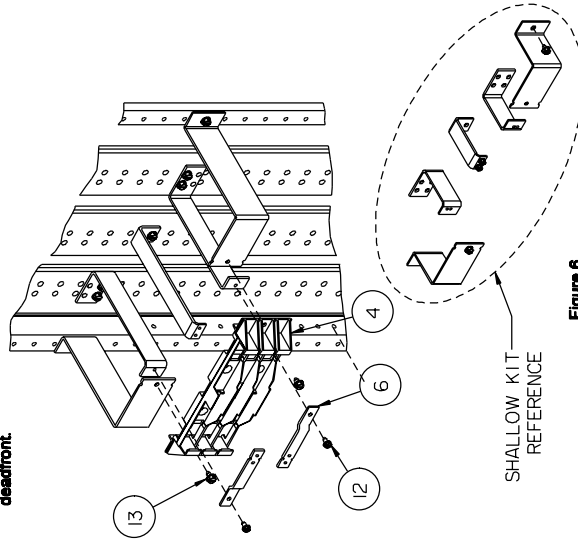

Figure 6
7. Reference fig. 6 - Installing the Top Barrier and Branch Connectors. Insert a 1/4-20 X 3/8" screw (item 13) through each of the 0.228" diameter holes in the Top Barrier (item 4) and into the 0.228" diameter holes in the Barrier Supports and tighten. Insert a 10-24 X 3/8" screw (item 12) through the 0.218" diameter hole in a Branch Connector (item 6) and into the 0.171" diameter hole in the AØ Strap and tighten. Insert a 10-24 X 3/8" screw (item 12) through the 0.218" diameter hole in a Branch Connector (item 6) and into the 0.171" diameter hole in the CØ Strap and tighten. Torque all hardware as specified on the rear of the deadfront.